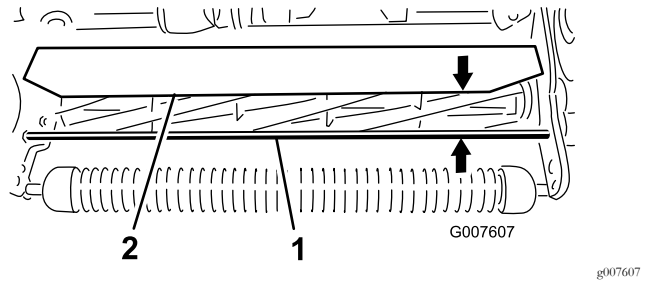

Figure 52
1. Measure the distance from the top of the front support rod to the front lip of the shield at each end of the cutting unit (Figure 52).